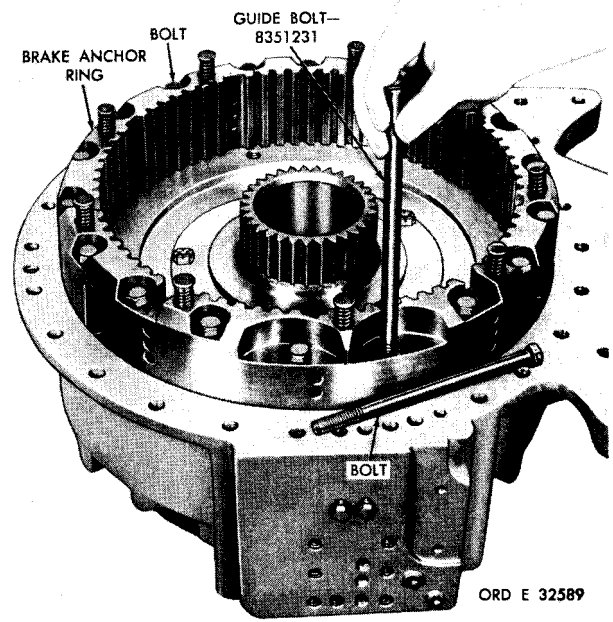

Figure 170. Removing geared steer clutch and brake components guide bolt
p. Install the right-brake anchor ring (fig. 170).
q. Install 18 bolts (two different lengths) that retain the brake anchor ring (fig. 170). Remove guide bolt 8351231 and install remaining bolt. Torque the bolts to 42-50 pound-feet.